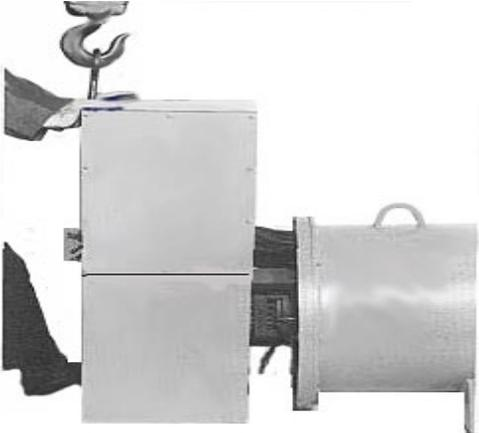

Figure 6-7
4. Remove conduit box. (Figure 6-7).